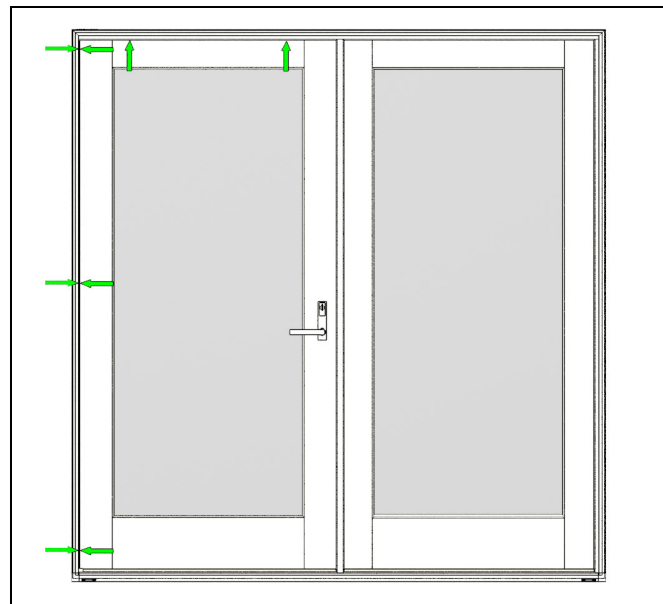

Figure 30
5. Close panel to ensure proper alignment with frame. See Figure 30.